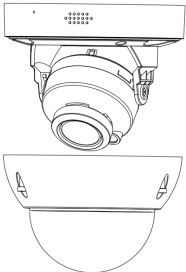

Figure 2-5 Take out the front cover
- 2. Take out the front cover: unscrew the screws fixing the front cover of the camera, and disassemble the front cover, as shown in Figure 2-5.